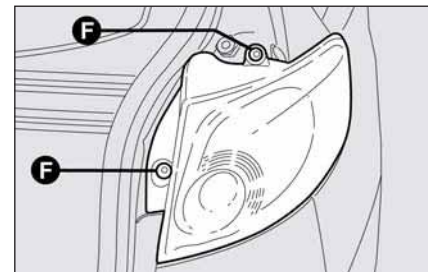

fig. 32
- loosen the two screws **F-fig. 32** and remove the light unit;